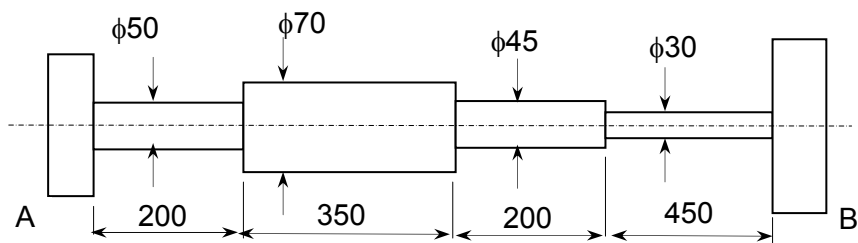

Fig. 2: ALL DIMENSIONS ARE IN mm [Q-3(b) OR ]
- (b) Two rotors are attached to the ends of the shaft 1200 mm long as shown in Fig. 2. Mass & Radius of gyration of rotor A is 250 kg and 50 mm respectively and that of rotor B are 600 kg and 25 mm respectively. Assuming  $G = 0.8 \times 10^5$  MPa, find: 07